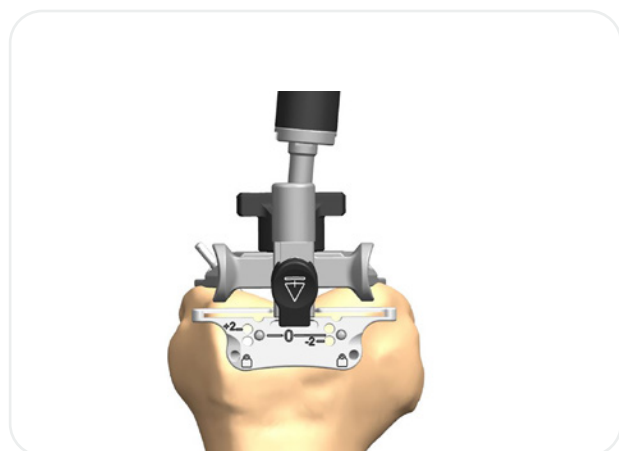

Figure 64
1. Using non-headed 65mm pins, pin the distal femoral cutting block to the anterior femur using the holes marked '0'. Once adequate distal femoral resection is noted, a headed or non-headed 65mm pin should be placed in one or both oblique pin holes for additional stability (**Figure 64**).